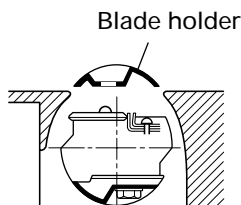

Fig. 12
- (2) Place the blade holder on the completed assembly, as shown in Fig.12, and fasten it with the three bolts. Ensure that the bolts are securely tightened.
- (3) Turn the cutter block over, and set the other side in the same manner.